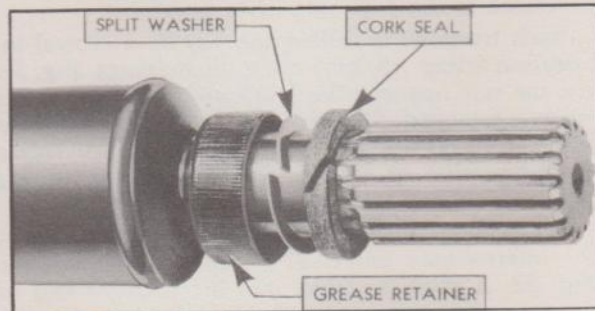

Fig. 37—Packing at Intermediate Joint Rear Yoke
**NOTE**—When necessary to replace a cork oil seal in this retainer, press the old one out of the retainer, and, because it is split, Fig. 37, it can then be removed from the propeller shaft.